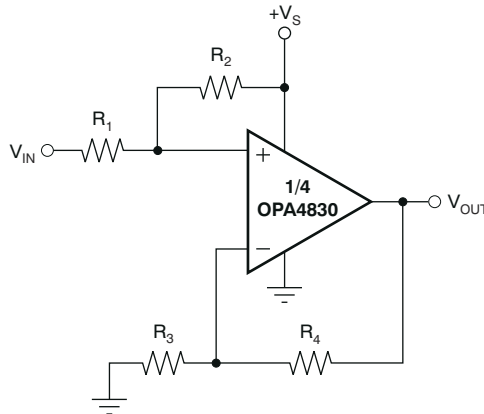

Figure 8-4. DC Level-Shifting
Figure 8-4 shows a DC-coupled noninverting amplifier that level-shifts the input up to accommodate the desired output voltage range. Given the desired signal gain (G), and the amount V_{OUT} needs to be shifted up (ΔV_{OUT}) when V_{IN} is at the center of the range, Equation 1 and Equation 2 give the resistor values that produce the desired performance. Assume that R_4 is between 200 Ω and 1.5k Ω .